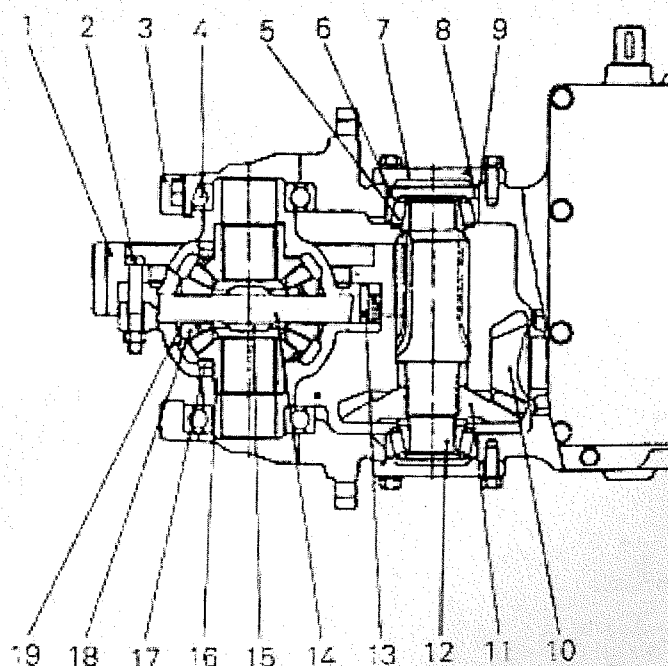

Fig 2-12 Speed Reducer and Speed Differential
2.3 Speed Reducer (Refer to Fig 2-12.)
2.4 Speed Differential (Refer to Fig 2-12.)